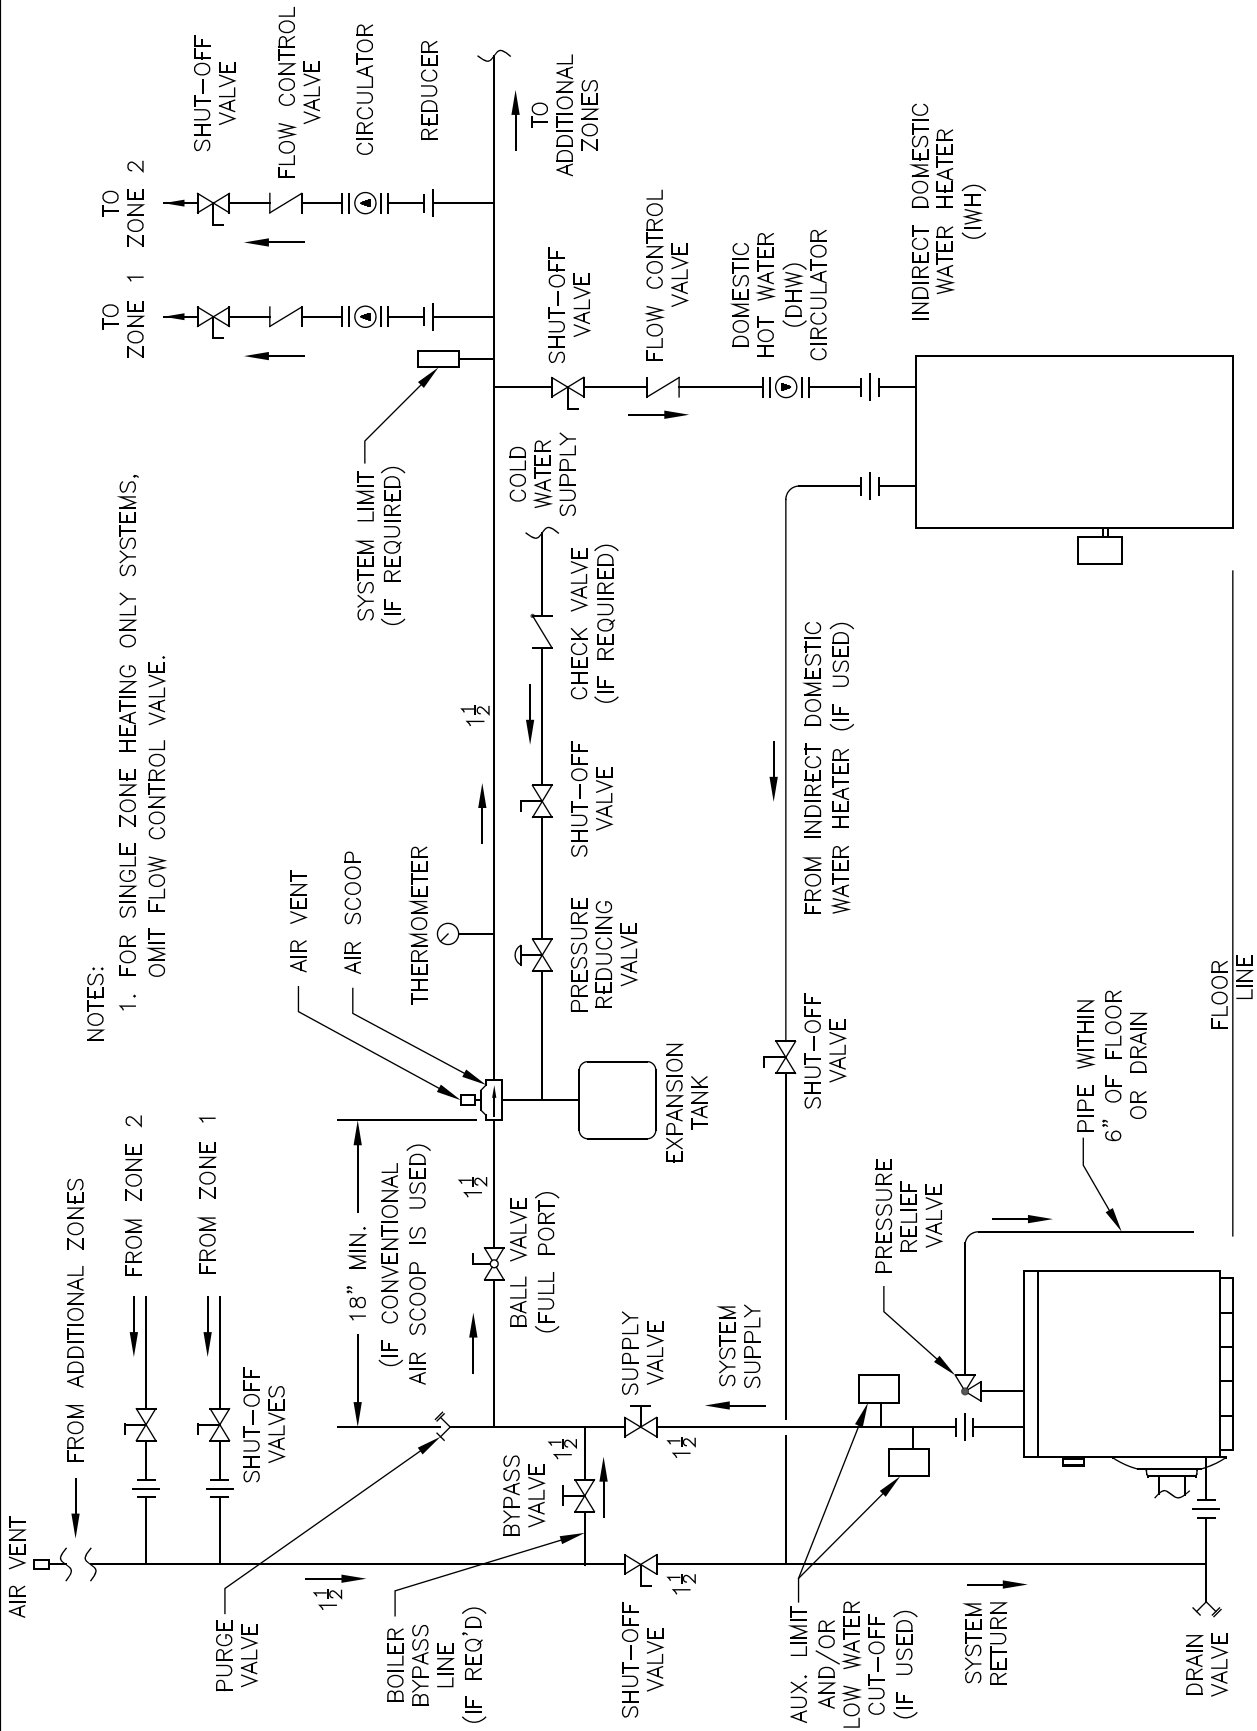

Figure 12A: Recommended Water Piping for Circulator Zoned Heating System - Supply Side Circulator
2. **Thread relief valve** onto factory installed ¾" NPT x 7¼" nipple located in left rear corner on top of boiler as shown in Figures 1A and 1B. Valve spindle must be in vertical position. Tighten with wrench. Pipe discharge as shown in Figures 12A and 12B. Installation of the relief valve must be consistent with ANSI/ASME Boiler and Pressure Vessel Code, Section IV.
- a. For Forced Circulation HOT WATER HEATING. See Figures 12A and 12B. Consult I=B=R, "Residential Hydronic Heating Installation and Design Guide".
Install a pipe tee in the boiler return piping along with a second tee in the supply piping as shown in Figures 12A and 12B. The bypass should be the same size as the supply and return lines. Locate valves in the bypass and supply outlet as illustrated in Figures 12A and 12B for regulation of water flow to maintain higher boiler water temperature.
1. **Connect Indirect Water Heater Piping** as shown in Figures 12A and 12B for water boilers and Figures 13 and 16 for steam boilers. Refer to Indirect Water Heater Instruction Manual for additional installation information.
- a. **CL Series Water Boiler** - Figures 12A and 12B show indirect water heater piping on typical hot water heating system. Boiler piping is the same as for any two-zone system. Figures 12A and 12B show circulator zoning, which is usually preferred for indirect water heaters. Size the circulator and indirect water heater piping to obtain the boiler water flow through the indirect water heater called for by the indirect water heater manufacturer. Refer to the indirect water heater instruction manual for additional details.